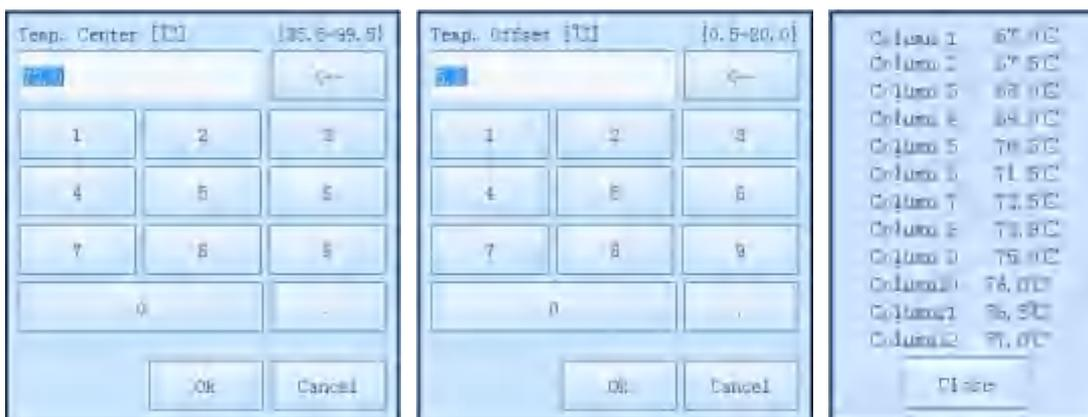

Figure E-3.7a. Step Edit window - Gradient step parameter setting
- ▶ User can press the input boxes of **Temp. Center** and **Temp. Offset** to edit the corresponding parameters for the current gradient step. User can also and press **< Details >** to view the specific gradient temperatures of each column, as shown in figure E-3.7a.